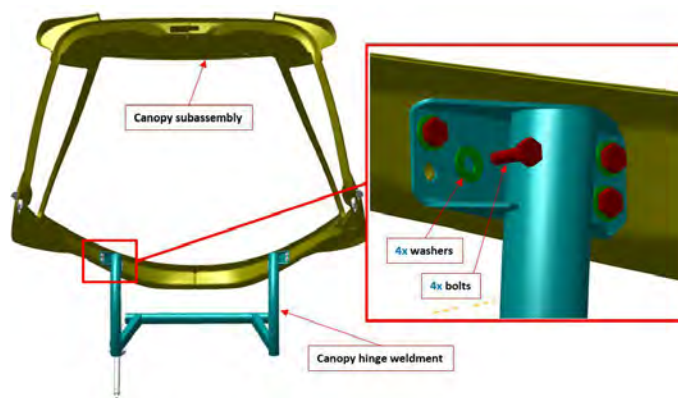

FIGURE 11-1
1. With the canopy raised and supported, use a wrench to remove the eight AN4C6A bolts and 91950A029 washers that secure the ICA005811 canopy hinge weldment to the canopy frame. The bolts are threaded into blind nutplates. See Figure 11-1.